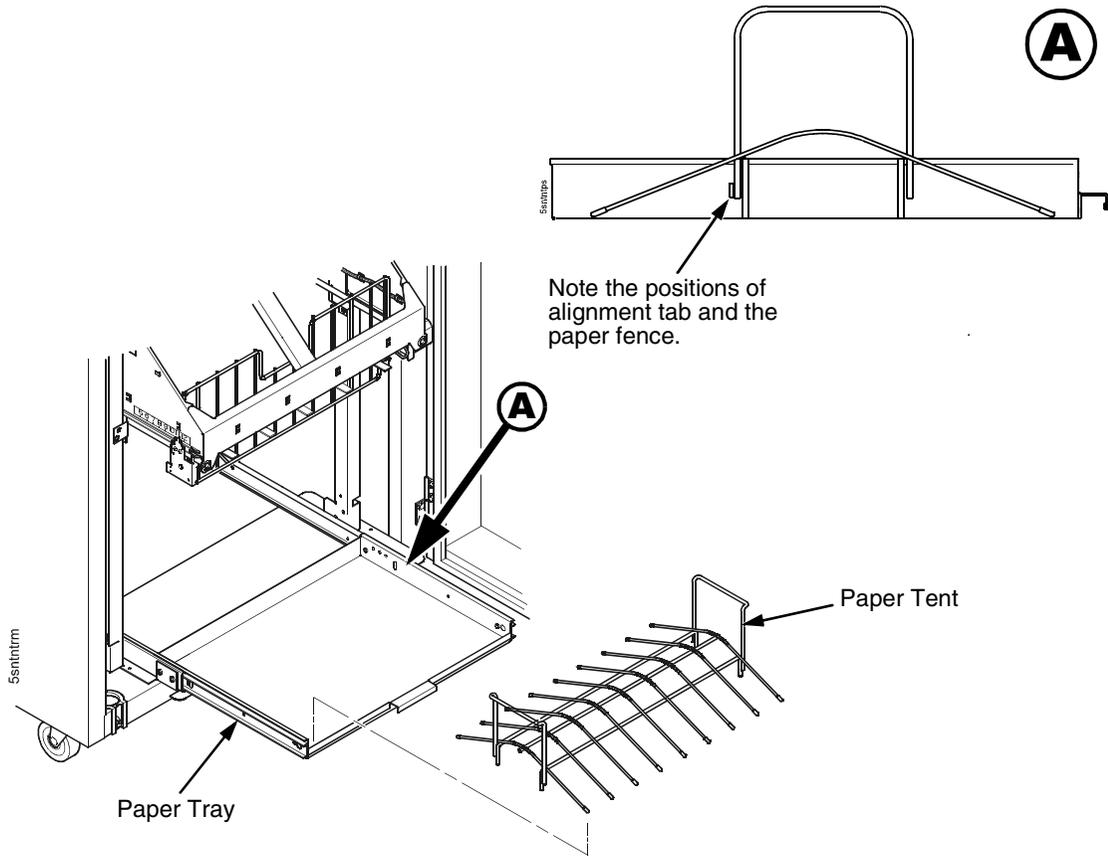

Figure 67. The Paper Tent
4. If the paper you will use is no wider than 15.5 inches (39.5 cm) install the wire paper tent in the pull out paper tray in the base of the stacker. If the paper is wider than 15.5 inches (39.5 cm) leave the paper tent out of the printer. (Figure 67.)